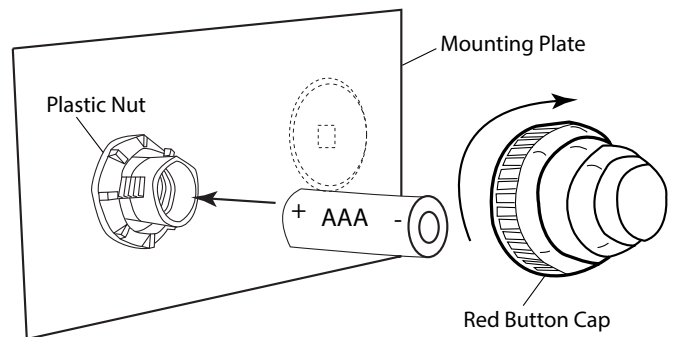

Fig. 13 Installing battery into Piezo module.
Step 4: The Piezo module mounts directly to the MT key valve bracket. Install the Piezo module using the smaller hole with the two notches and slide module into the place until it stops. Using the plastic nut thread it onto the Piezo module to secure into place. Be careful not to turn the nut too tight and crack the plastic. Install the AAA battery as shown and thread the red button cap on the remaining threads of the module (See Fig. 13).